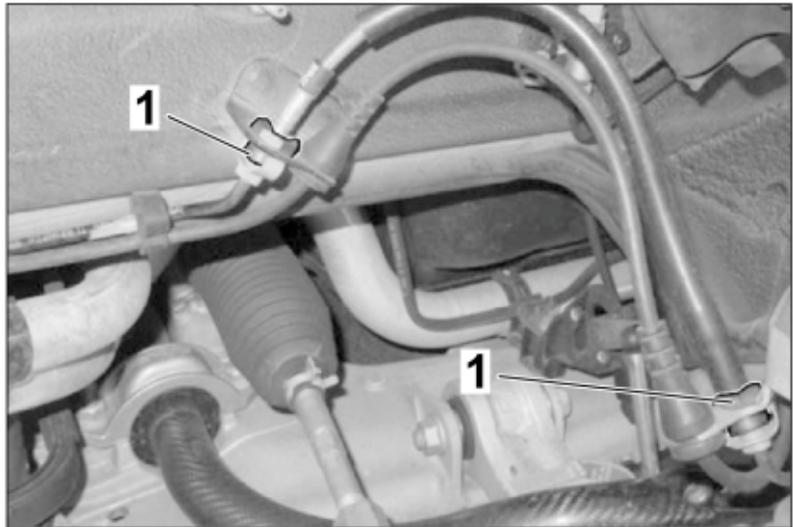

Figure 20
2. – Loosen the screw connection of the brake line \Rightarrow Figure 20 -1- and remove the brake line.
5. – Mount left and right brake-disc air guides \Rightarrow Figure 20.